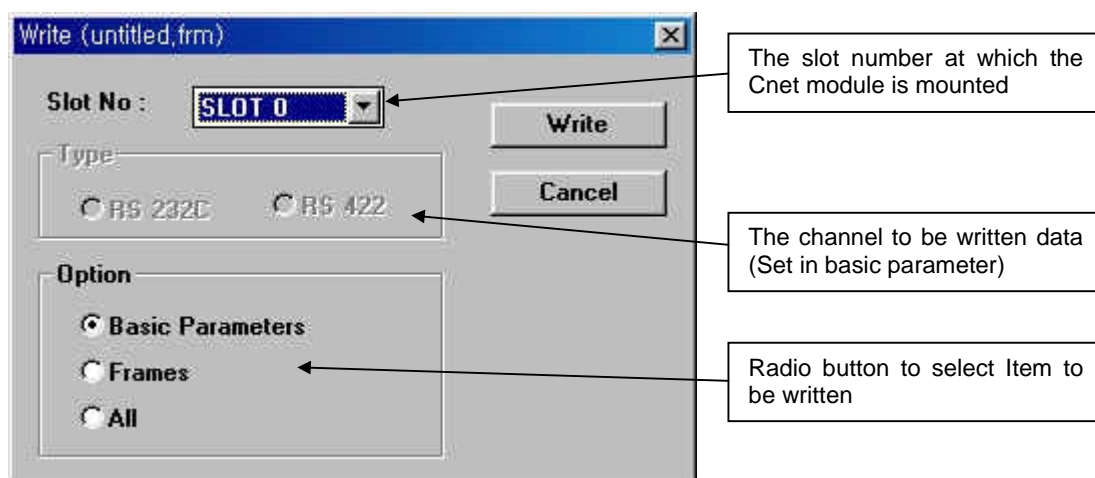

Fig. 6.15 Writing dialog box
- ③ Choose **Online-Write** in menu. Then the screen of the figure 6.15 will appear.